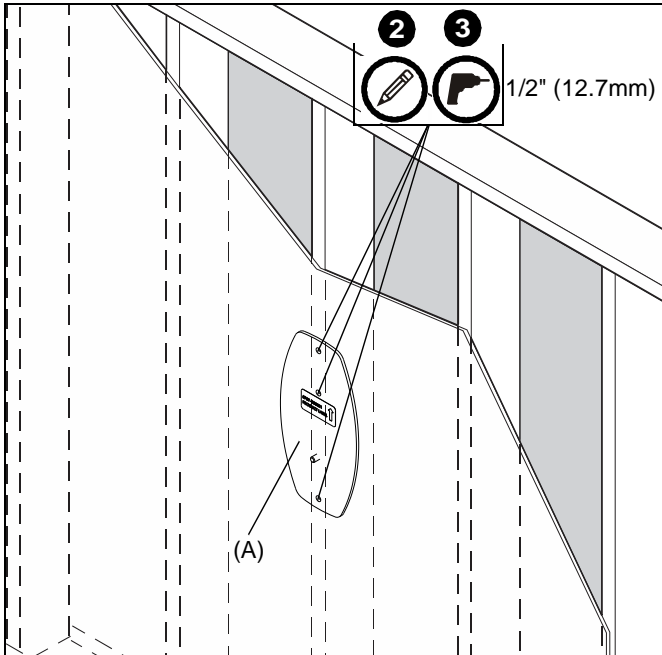

Figure 1
1. Hold adapter plate (A) up to the wall on top of steel stud at desired mounting location. (See Figure 1)
2. Mark three hole locations. (See Figure 1)
3. Drill a 1/2" (12.7mm) hole at the desired mounting locations. (See Figure 1)